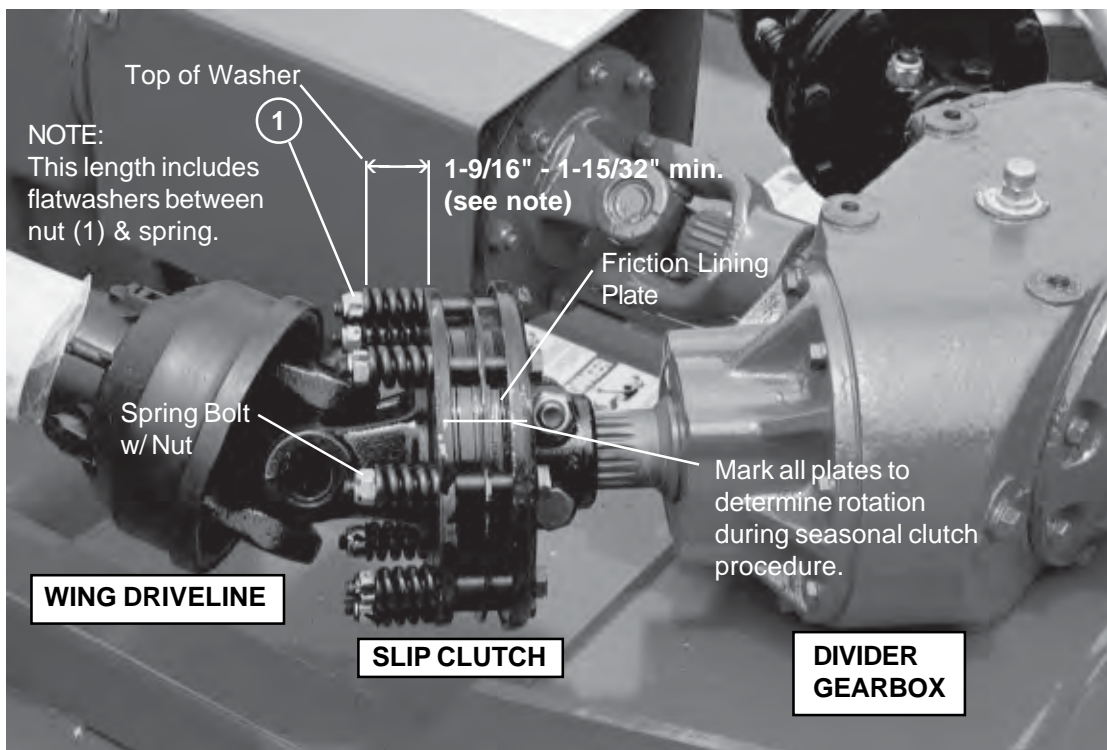

FIGURE 24
1. Loosen nuts (**Figure 24**) on springs until the springs can freely rotate, yet remain secure on bolts.
3. Mark outer plates as shown in **Figure 24**.